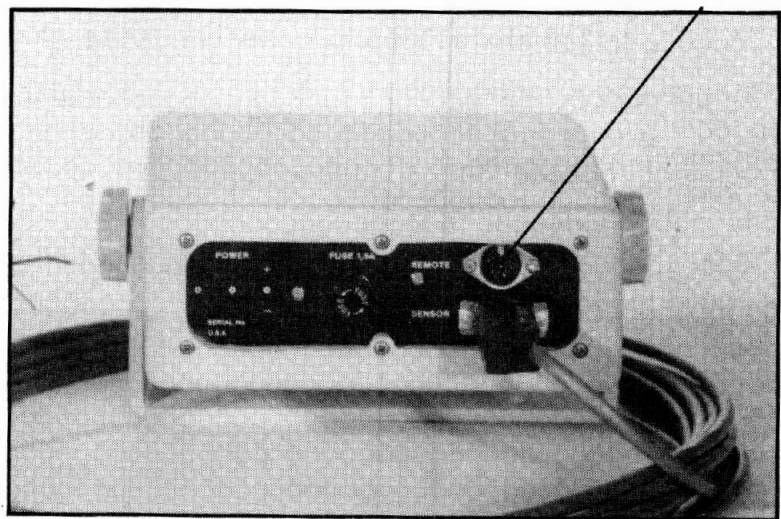

FIGURE 49. BACK OF DC700/AP DIGITAL COMPASS
4. Plug the end of the DC700-4404 cable into the REMOTE jack on the rear of DC700/AP (Figure 49.)